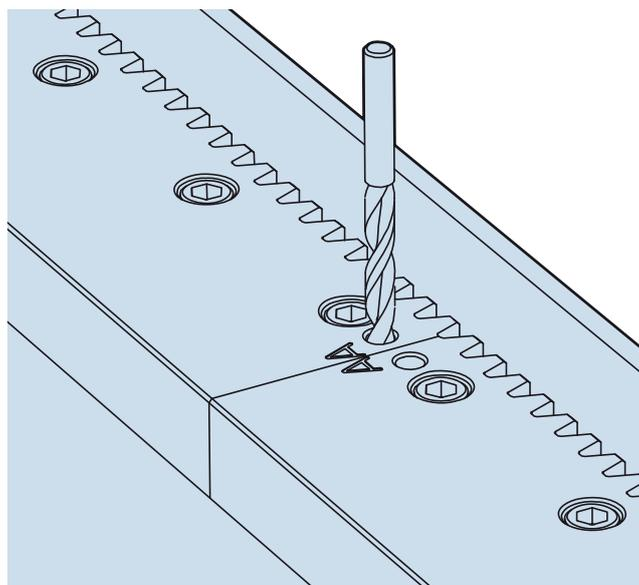

Figure 7
22. With the track positions confirmed, the joints should be doweled in place to prevent any subsequent movement in service. To do this, drill the  $\text{Ø}9.8$  holes in the end of each track through into the mounting surface and then ream holes in both parts to  $\text{Ø}10$ . Fit appropriate dowel pins. Figure 7 shows the position of the dowel holes.